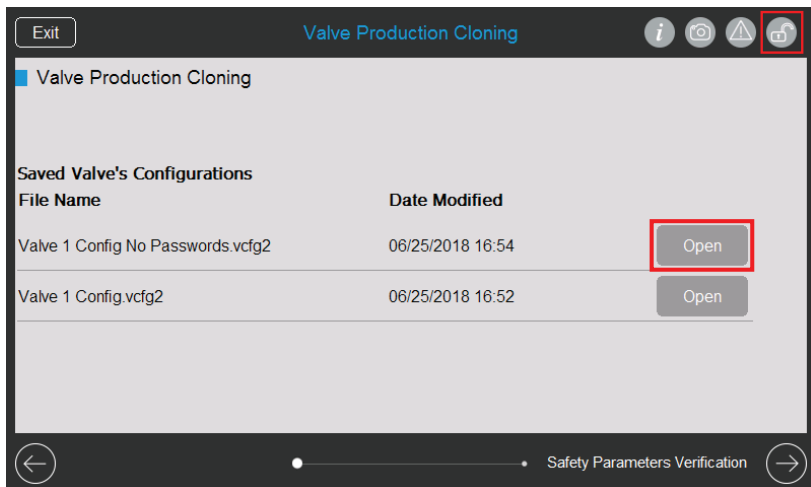

Fig. 101: Valve Production Cloning screen.
The cloning feature allows the Installer or OEM user to load a previously saved fuel/air valve configuration to use for another application or as a basis for making another configuration. Naming and saving a newly created valve configuration is also possible. Refer to Fig. 101.
3. On the 'Valve Production Cloning' screen that appears, log in under the OEM access level by selecting the padlock symbol  in the upper right corner of the page. Refer to Fig. 101.
4. Select the appropriate valve configuration to load to the valve by pressing the 'Open' button beside it (Refer to Fig. 101). The configuration cloning groups page will pop up.